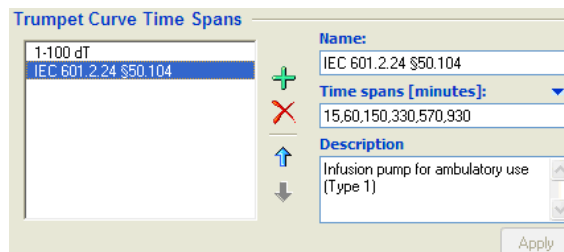

Figure 4-3. Time Spans [Minutes]
The sub heading updates to read **Time spans [minutes]** as shown in Figure 4-3.
5. Click in the **Time spans** text box and type in the time spans (observation windows) for the trumpet curve. In this example the time spans are 15, 60, 150, 330, 570, and 930 as specified in the standard. Each value must be separated by a comma. See Figure 4-3.